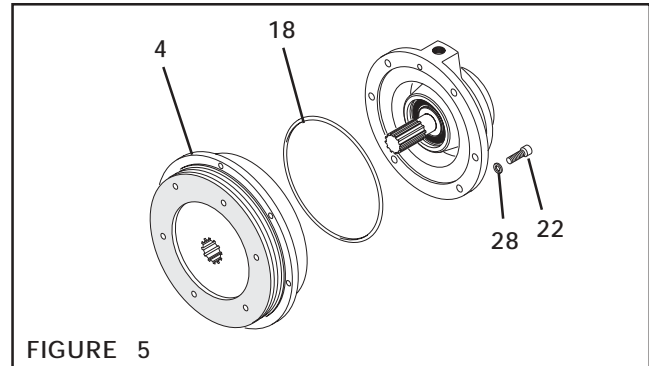

FIGURE 5
1. Remove the ten Socket Head Cap Screws (Item 22) and Flat Washers (Item 28); then, remove the Brake Housing (Item 4) (See Figure 5).
2. Remove the old O-ring Seal (Item 18) (See Figure 5).